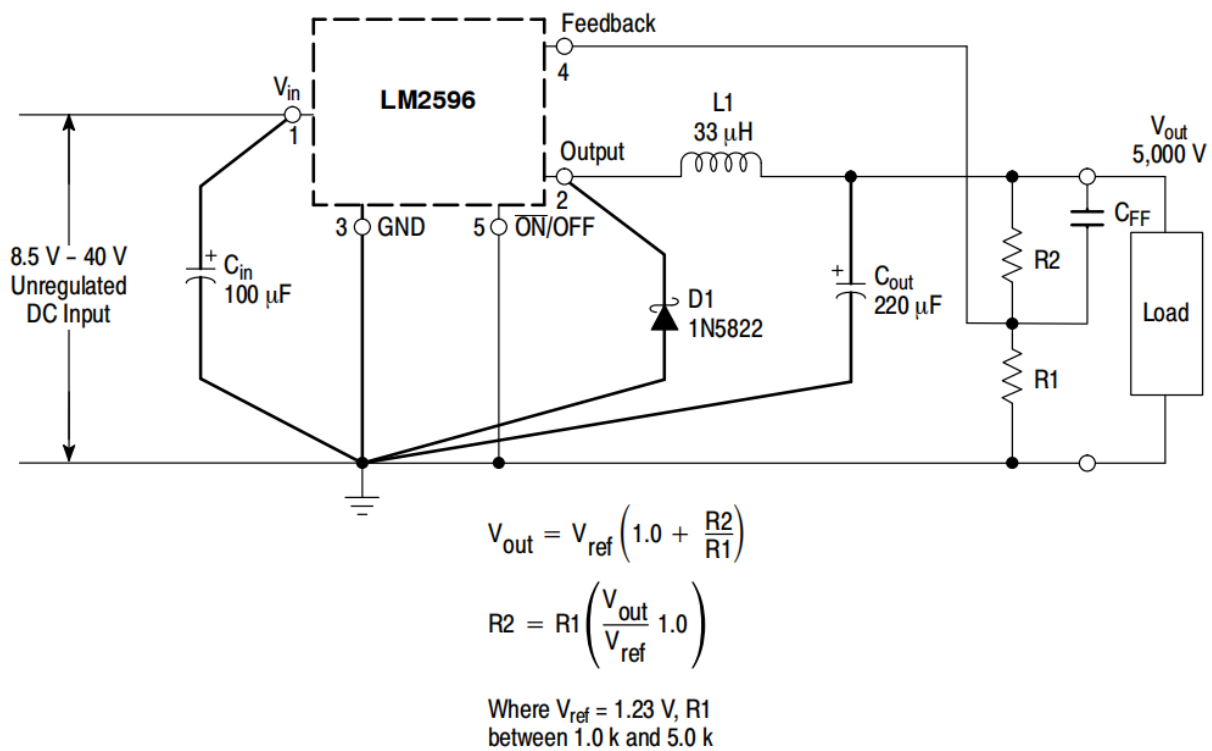

Figure 15. Typical Test Circuit
LM2596 (Note 1, Test Circuit Figure 15)
- External components such as the catch diode, inductor, input and output capacitors can affect switching regulator system performance. When the LM2596 is used as shown in the Figure 15 test circuit, system performance will be as shown in system parameters section.
As in any switching regulator, the layout of the printed circuit board is very important. Rapidly switching currents associated with wiring inductance, stray capacitance and parasitic inductance of the printed circuit board traces can generate voltage transients which can generate electromagnetic interferences (EMI) and affect the desired operation. As indicated in the Figure 15, to minimize inductance and ground loops, the length of the leads indicated by heavy lines should be kept as short as possible.